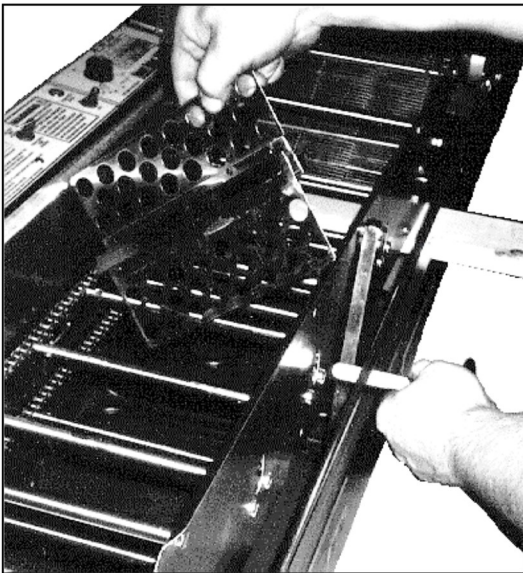

Figure 4 Removing the Turner
6. Lift out the turner. See Figure 4.